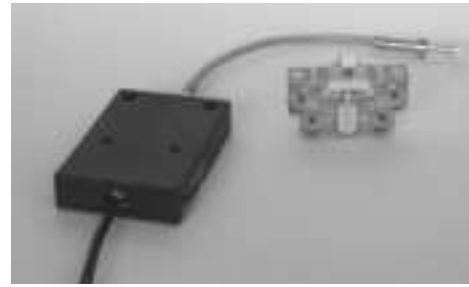

Fig. 15 Arc chute indicator
- ARC CHUTE INDICATOR (Code 17) - a potential free, NO contact mounted on the sidewall. Locks electrically the closing drive if arc chute is not installed on [Fig. 15].